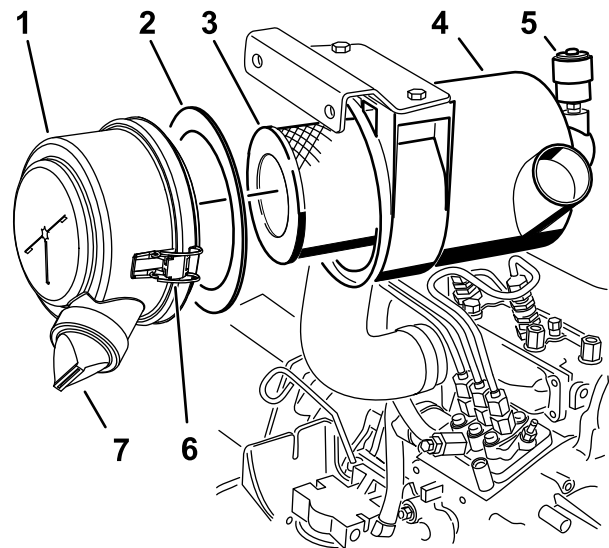

Figure 70
3. Service the air-cleaner filter (Figure 70).